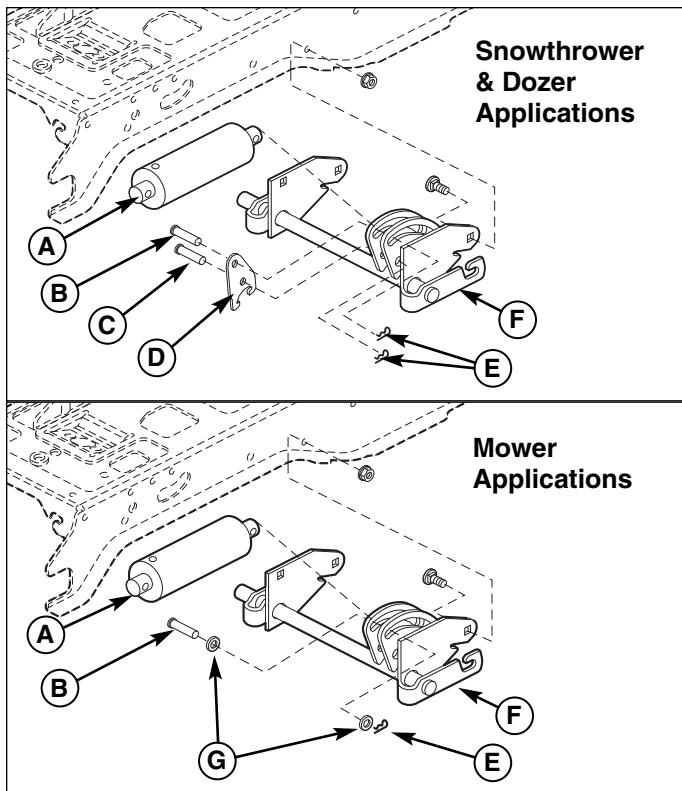

**Figure 16. Trailer Weight Recommendations**
The maximum horizontal drawbar force allowed is 444 Newton. The maximum vertical drawbar force is 222 Newton. This equates to a 396 lbs (180 kg) trailer on a 10 degree hill. Secure the trailer with an appropriately sized clevis pin (A, Figure 16) and clip (B).